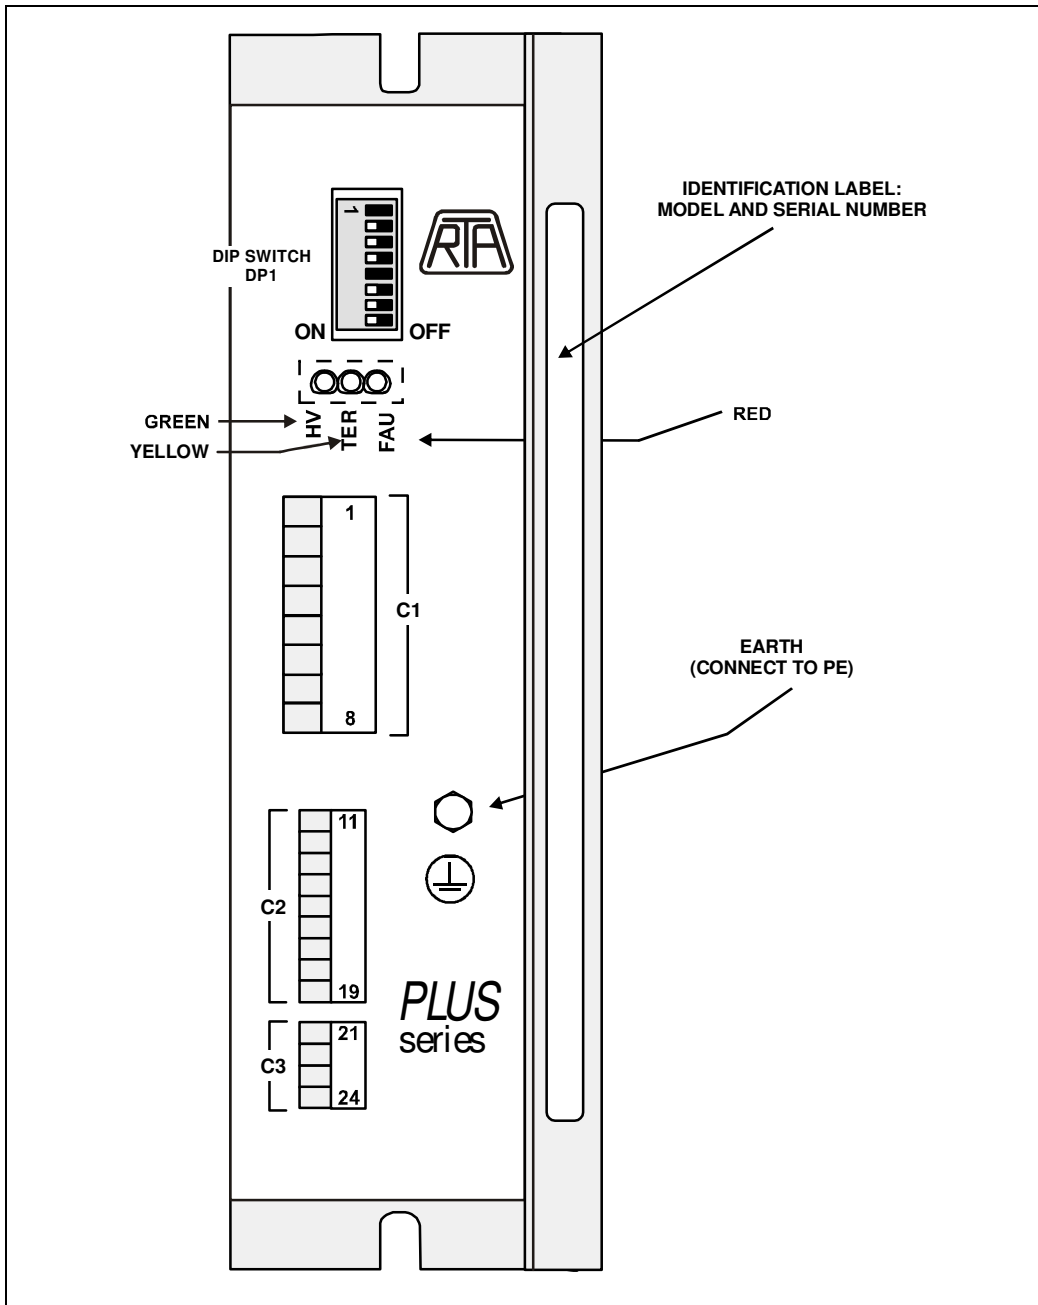

Fig. 4 – Dip-switch DP1, alert led and connectors.
- 6.2- Fig. 4 shows the position of DIP-SWITCH DP1, alert LED, connectors and labels in PLUS E series drives.